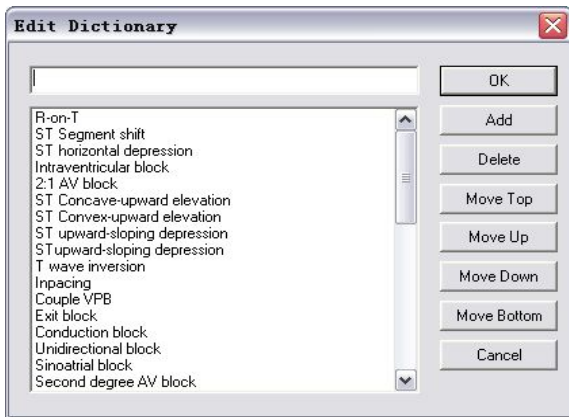

Figure 74
- **Data Dictionary:** The data dictionary of 12-lead interface includes secondary data dictionary and multilevel data dictionary. Use "Data Dictionary" to insert diagnostic terms. You can add your own technical terms or arrange the sequence of terms according to your need. (As Figure 74). Multi-row display is supported.